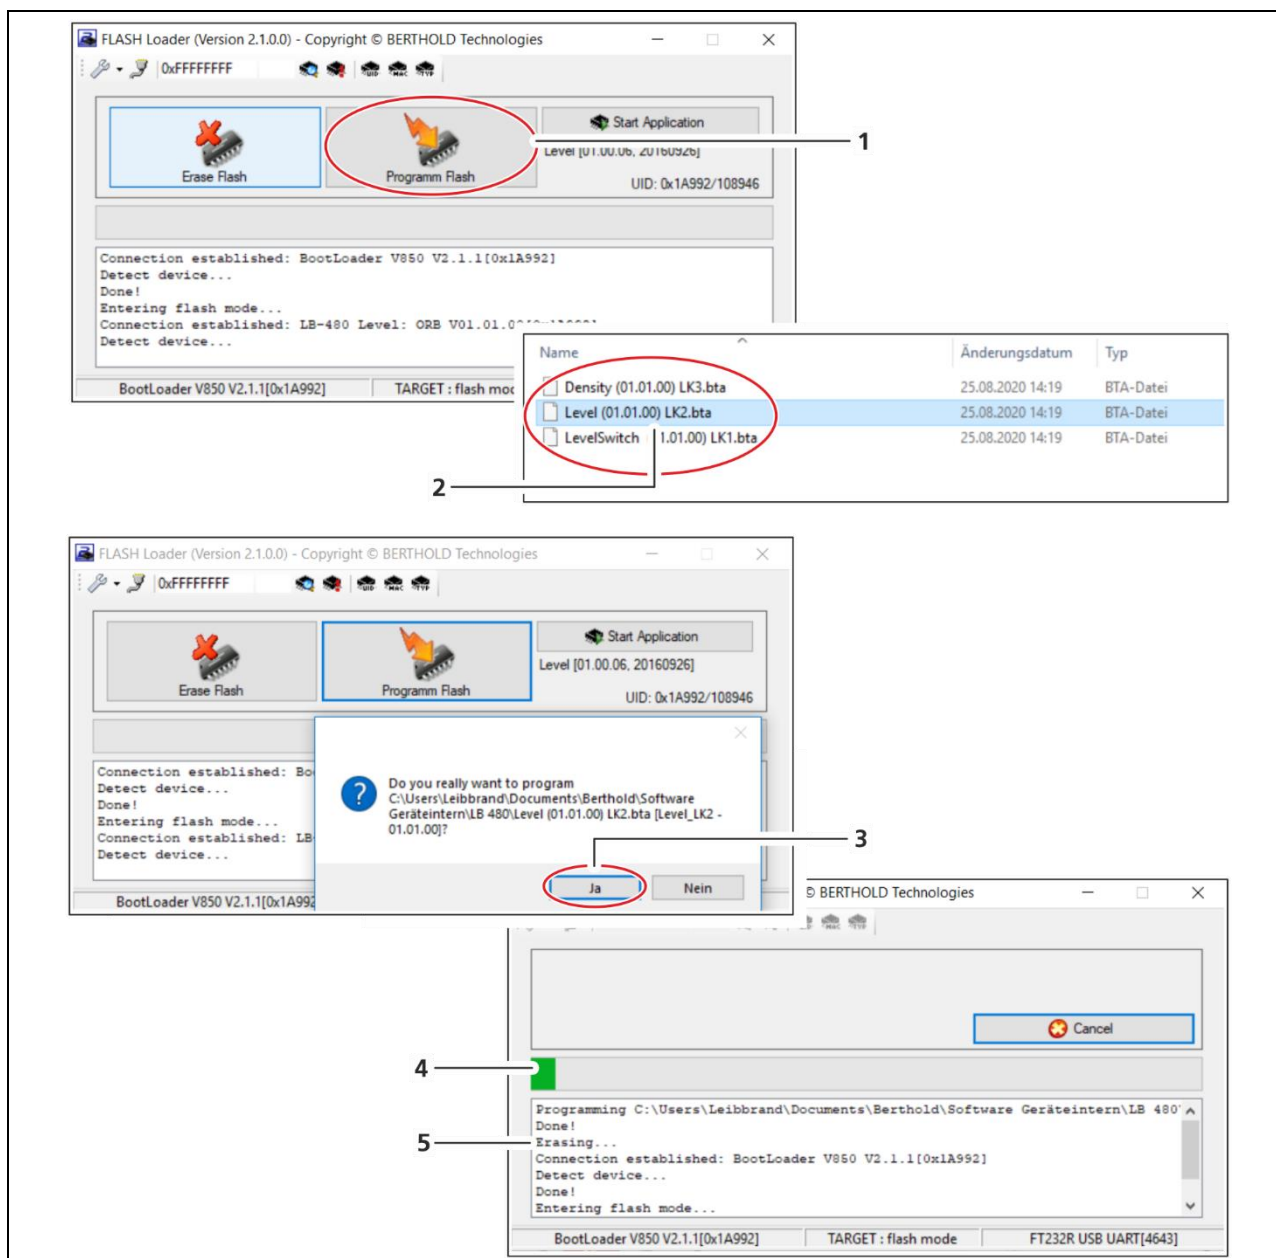

Fig. 6 Select new software in "Flash Mode"
23. Click on the button <Programm Flash> (Fig. 6, Pos.1).
24. Select the software file suitable for your application (.bta) e.g. "01.01.00." (Fig. 6, Pos.2) and click <Open>.
25. Confirm with <Yes> (Fig. 6, Pos.3).
- ▶ The old installation is deleted (Fig. 6, Pos.5) and the new embedded software is installed.
The installation process can take up to one hour if the transfer rate is low. Only interrupt the installation if the process bar (Fig. 6, Pos.4) does not change for a long time.